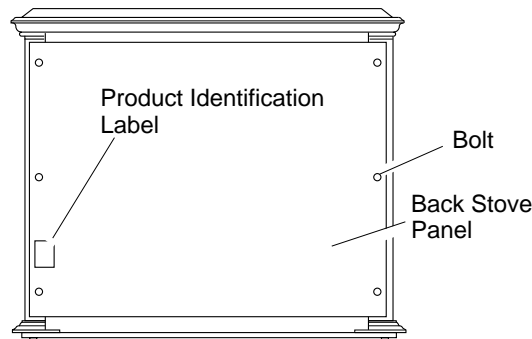

Figure 5 - Removing Back Panel
4. Remove back panel from stove (see Figure 5). Use an adjustable wrench or a 10 mm socket. Remove six (6) bolts and washers. Keep bolts and washers to reattach back panel later.
4. If not already removed, remove back panel from assembled stove body (see Figure 5, page 8). Use an adjustable wrench or a 10 mm socket. Remove six (6) bolts and washers. Keep bolts and washers to reattach back panel later.